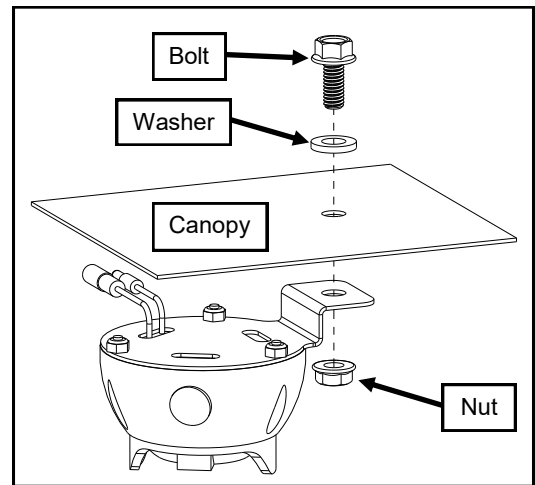

Fig. 4
4. Attach the dome light to the canopy with a 5/16-18 x 3/4" long bolt, nylon washer, and nut as shown in fig. 4.